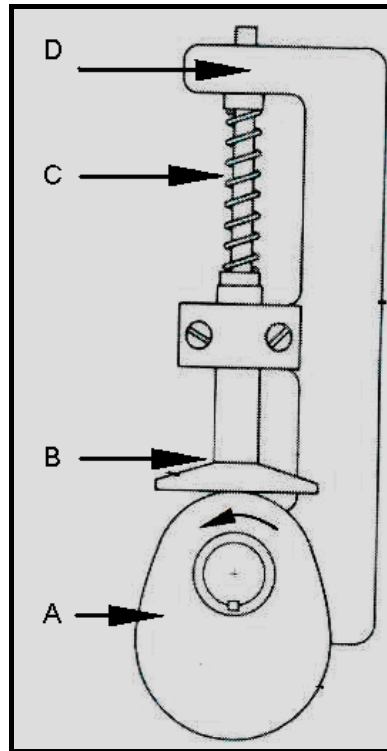

FIGURE 1.8
1.18 Identify the cam by referring to FIGURE 1.8 below.